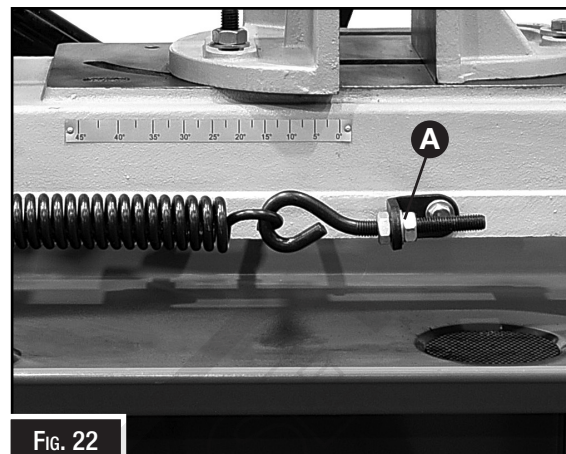

FIG. 22
5. Adjust tension to approximately 5-6kgs. By turning bolt (A, Fig. 22).